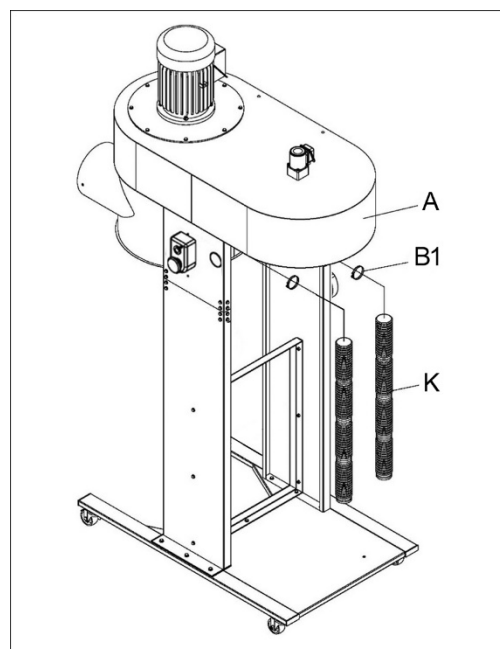

Figure 5-5 (filter not shown for clarity)
7. Place 2-inch hose (K) on main housing and tighten with hose clamp (B1). See Figure 5-5.